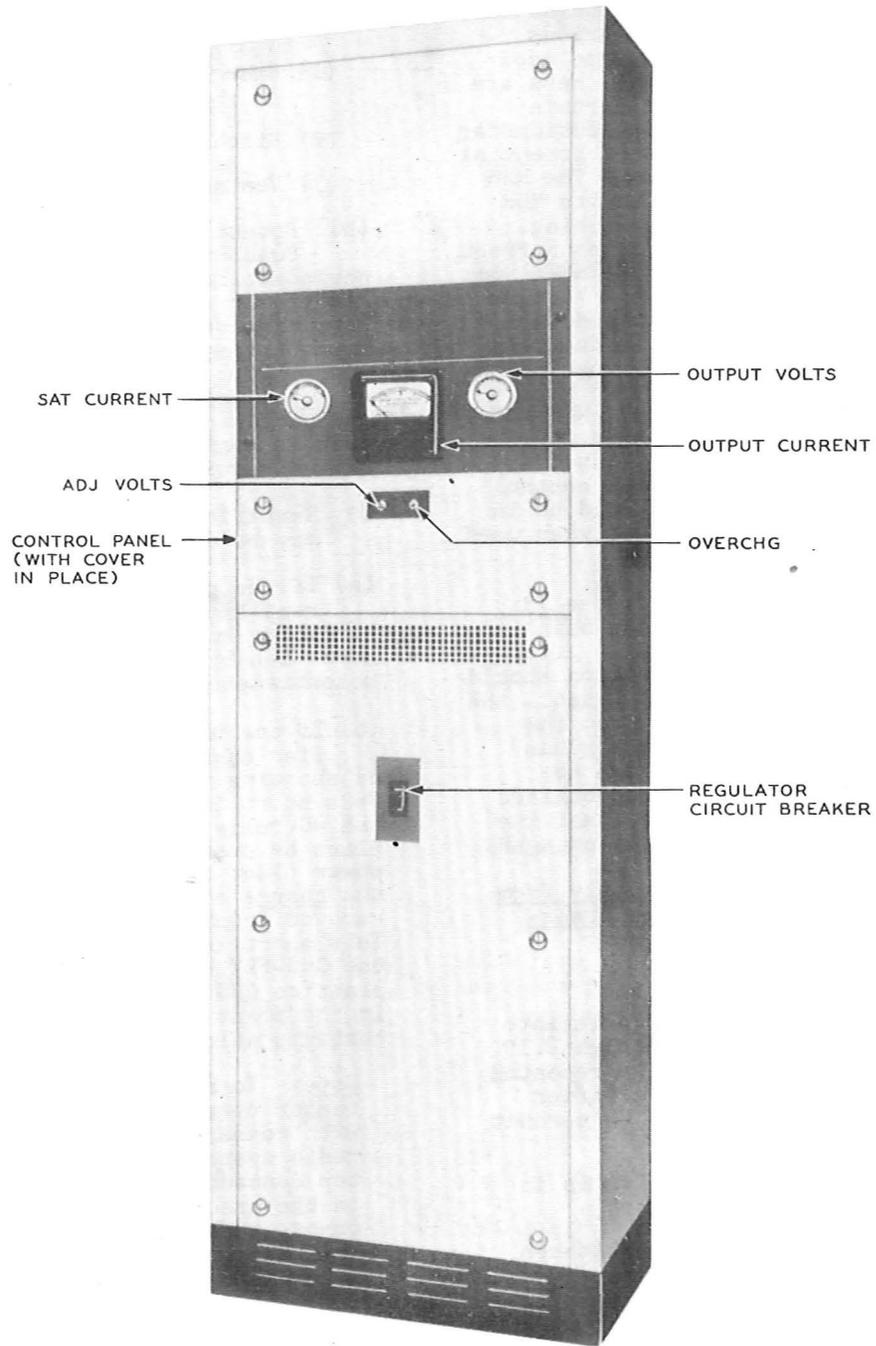

Fig. 2 - J86244 Rectifier
- (a) The REGULATOR circuit breaker is in its OFF position (see Fig. 2).
CURRENT ammeter relay located near the top of the bay (see Fig. 2). Check to see that rated output can be obtained, as read on the OUTPUT current ammeter relay and OUTPUT VOLTS, by rotating the MAN potentiometer cw and adding load to obtain rated current and voltage. Restore the MAN potentiometer to its NOR (extreme ccw) position, the TEST 1-NOR key to its NOR position and remove the load. Operate the REGULATOR circuit breaker to its OFF position.